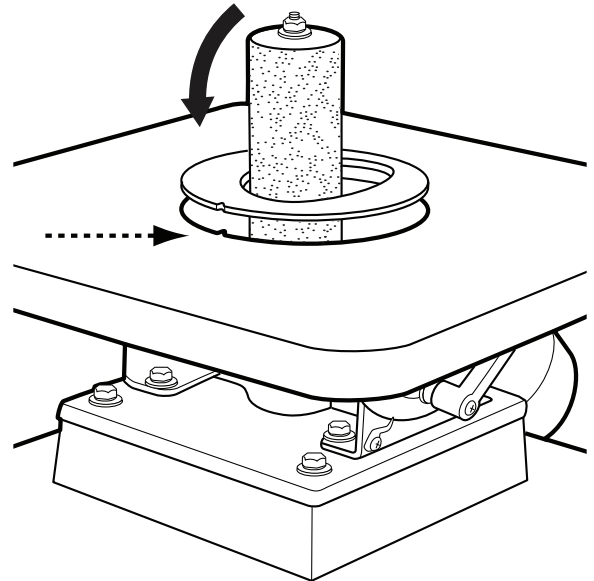

FIGURE 6
- Slip the table insert over the spindle. Ensure the table insert is properly seated by aligning the small notch in the table insert with the corresponding small tab in the table as shown in Figure 6.